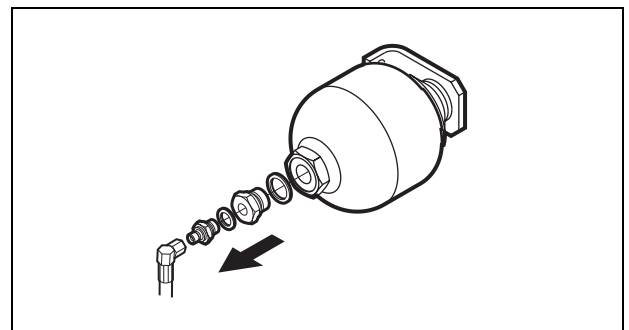

Fig. 38 Remove the hose and nipples from the accumulator
4. Disassemble the hose and the nipples from the accumulator. See Fig. 38.